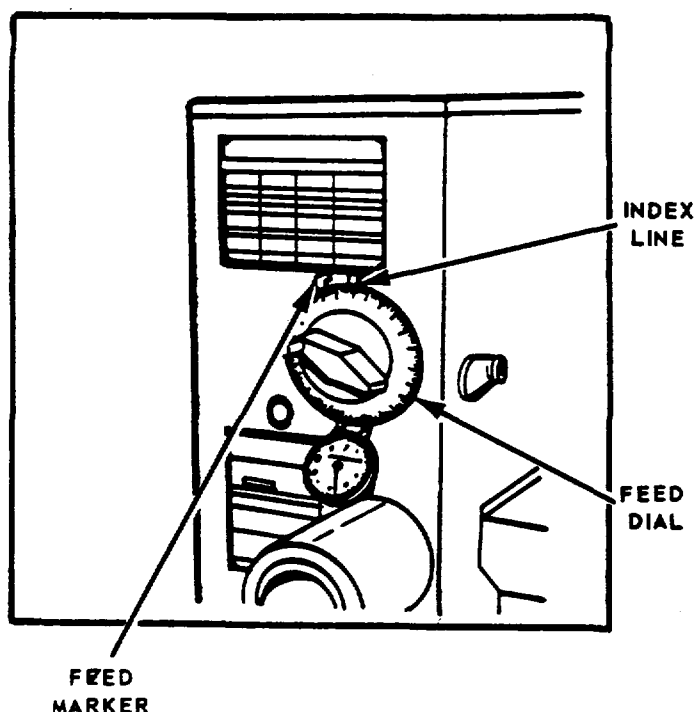

FIGURE 27
- i. See Figure 27. With machine pedal still depressed, set Feed Marker at Index Line while holding Feed Dial.